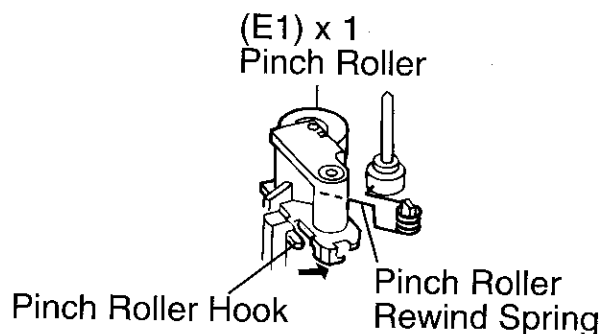

Figure 11-3
**How to remove the pinch roller (See Fig. 11-3.)**